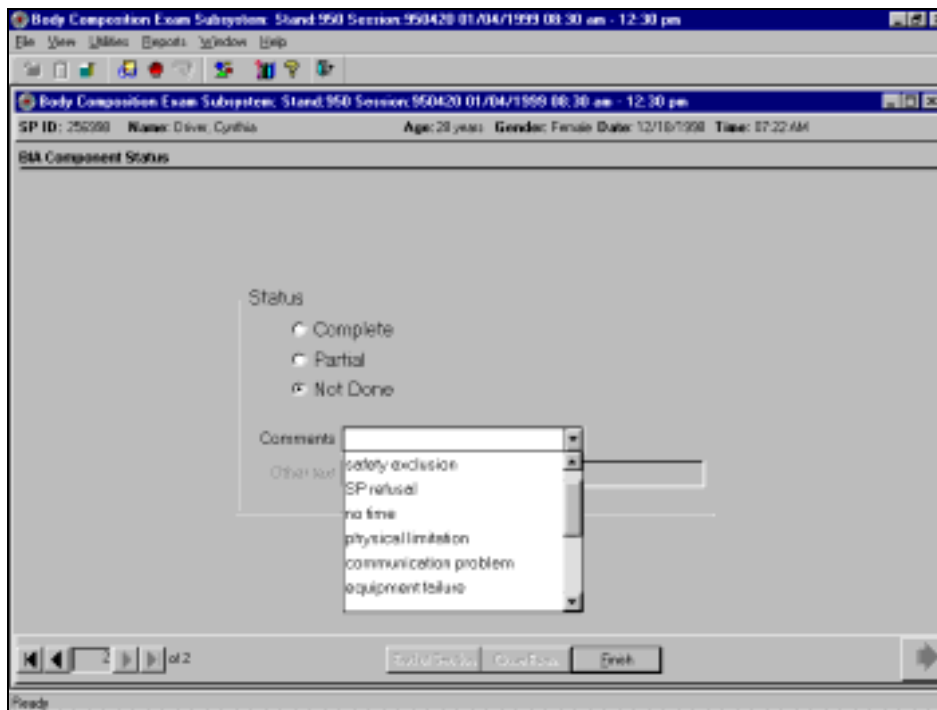

Figure 4-39. BIA component status (1)
- Additional comments from the list are shown in Figure 4-39: